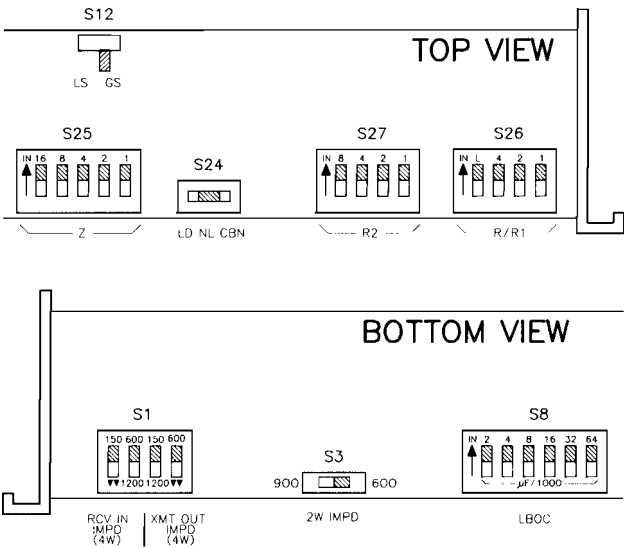

figure 9. 6178 option switch locations
3.05 Several option switches must be set before the 6178 is placed into service. Locations of these switches and of certain alignment switches on the module's printed circuit board are shown in figure 9. Table 6 summarizes all switch options and provides a convenient **checklist** that can be filled out either prior to installation for prescription optioning or during installation to serve as a record for later reference. Refer to figure 9 and table 6, and set each option switch on the 6178 as required.